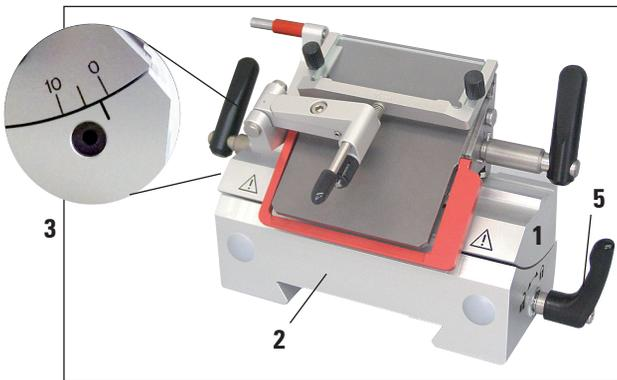

Fig. 25
- Set the knife or blade holder (1, Fig. 25) on the base (2), adjust the clearance angle (on the left of the knife/blade holder) to approx. 2° - 5° and secure it in the bore (3) on the base (2) using the No. 4 Allen key.